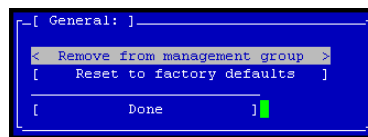

Figure 211. Removing the SSM from a Management Group
1. On the Configuration Interface main menu, tab to Config Management and press Enter. The Configuration Management window opens, shown in Figure 211.